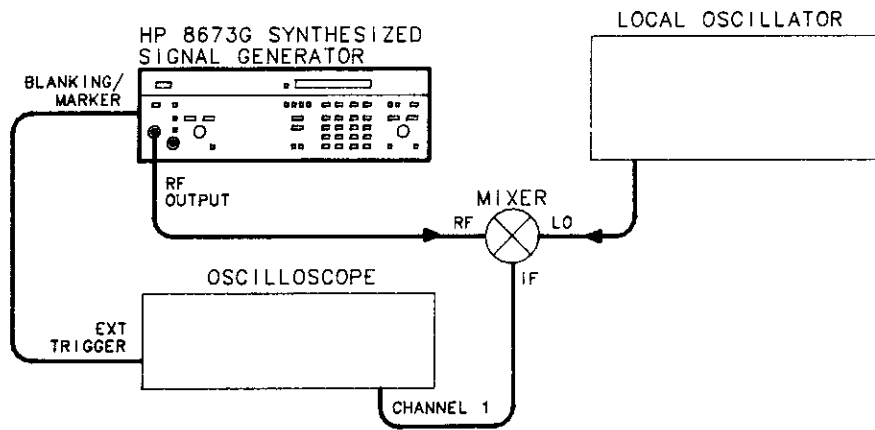

Figure 4-6. Frequency Switching Time Test Setup
1. Set up the equipment as shown in Figure 4-6. The external trigger input of the oscilloscope is connected to the Signal Generator's rear panel Blanking/Marker output. This signal will trigger the oscilloscope at the start of a frequency change when any sweep mode is selected.